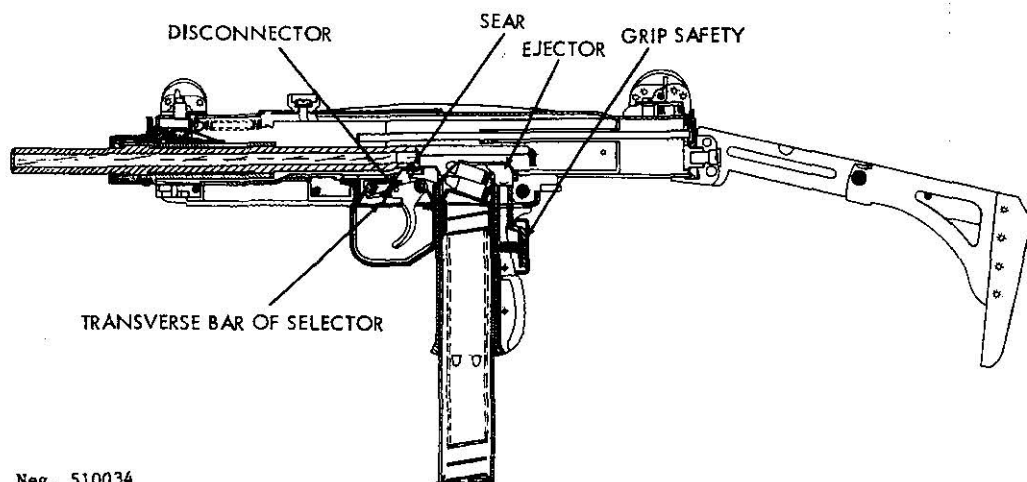

Figure 35. UZI submachinegun, section.
b. As the trigger is pressed, the disconnecter (fig 35) pinned to the front extension of the trigger pulls the sear out of engagement with the bolt, and the bolt, under the force of its driving spring, starts forward; the feed rib of the bolt forces the
c. The fired cartridge blows the bolt back and compresses the driving spring. The extractor holds the fired cartridge case to the bolt face until the case strikes the fixed ejector (fig 35) in the bottom of the receiver; the case is then expelled through the ejection port. The driving spring forces the bolt forward again to continue the firing cycle.
e. When the selector is in the middle (or semiautomatic) position, the transverse bar of the selector (fig 35) slips under the front of the disconnecter. When the trigger is pressed, the